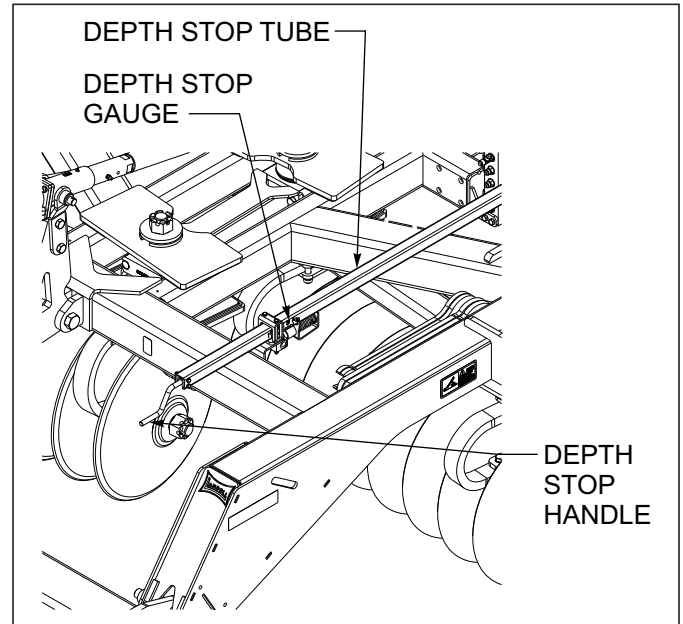

Figure 4-15: Depth Stop Adjustment (Manual)
1. Adjust the depth stop by turning the handle out (counter-clockwise) to increase operating depth (See **Figure 4-15.**) Turn the handle in (clockwise) to decrease operating depth. One turn will equal approximately 3/16" adjustment in depth.